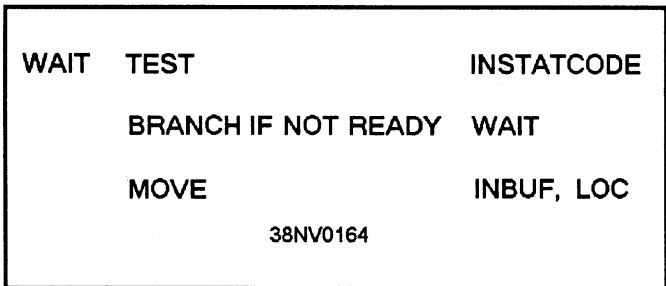

Figure 7-12.—Polled I/O; read operation.
**POLLED I/O.** —In polled I/O the CPU must regularly check—or **poll**—each channel or port in turn to determine if it has information for input or is ready to accept data for output. A flag register can be used to check the port’s status. Polling is time consuming. The CPU must pause between executing processing instructions and poll of each port. A port’s status is examined in case action is required by the computer. We use a keyboard as an example of polled I/O. Figure 7-12 shows a read operation. The CPU reads or receives 8-bit encoded characters as they are typed on the keyboard. The CPU is programmed to read the input characters from an external device, in this case a keyboard. The keyboard inputs parallel 8-bit character codes for each depression of the keys. Characters are entered slowly as compared to the CPU’s ability to